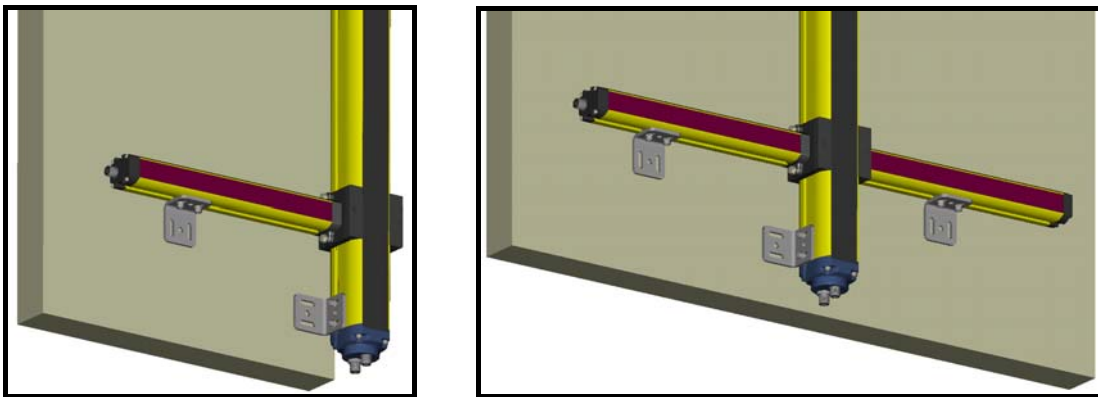

Figure 27
- In critical applications due to the presence of strong vibrations, the arms have to be fixed using the specific fixing brackets (Figure 27).
In presence of strong vibrations fixing brackets (see paragraph 4.1) for the Muting arms mounting are compulsory (Figure 27), which are optional in normal working conditions.